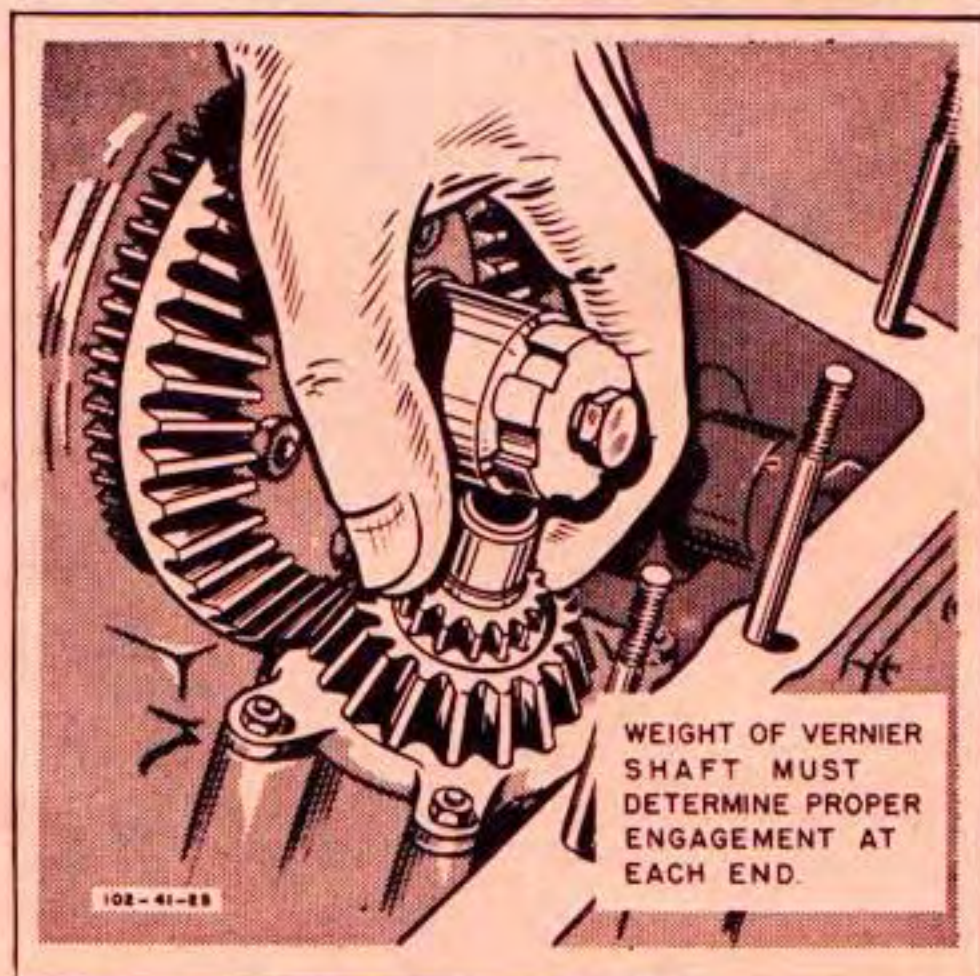

Figure 179—Engaging Camshaft Drive Shaft
6. Remove rubber band, wire, or cord suspending the camshaft drive shaft, and carefully lower shaft into engagement with the upper and lower camshaft drive gears. (See figure 179.) As weight of shaft must determine the engagement, it may be necessary to try several different shaft positions.